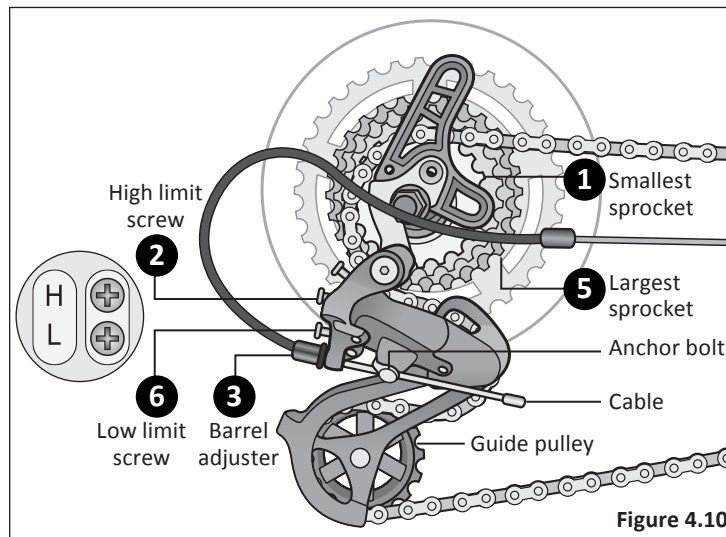

Figure 4.10
- ➋ Adjust the high limit screw so the guide pulley and the smallest sprocket are lined up vertically. **Figure 4.10**